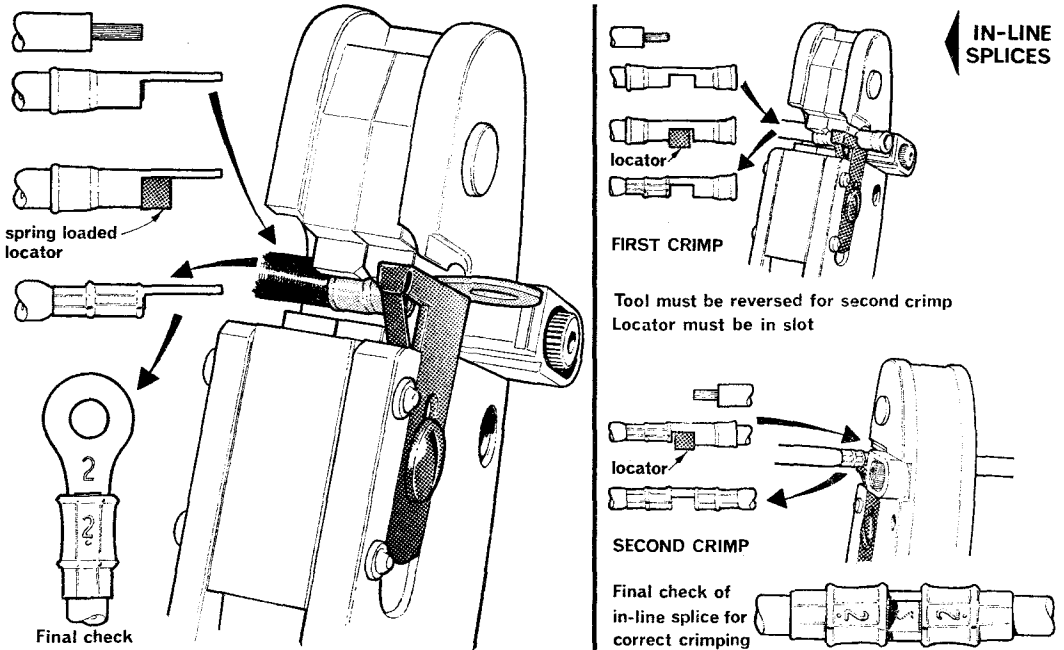

Fig. 15 Use of Hellermann crimping tool
a. *Normal.* The maximum after-crimp dimension is in the same plane as the palm of the terminal. This method is illustrated in figure 15 and is the most often used.
In order to obtain the correct pressure to produce a good electrical joint the tools are fitted with a ratchet mechanism which prevents the jaws from opening before the joint is fully formed. An automatic checking system is also fitted which impresses the tool size number on the terminal barrel during crimping. This number *must* match the size reference engraved on the terminal palm by the manufacturer. A check must be carried out to ensure that the number is correct and that it is the right way up (*see* Fig. 15) before a completed termination is accepted as serviceable.
- e. Ensure that the SBAC locator on the tool is retracted. Insert the terminal and cable into the tool jaws and push the end of the terminal barrel up against the spring-loaded locator (*see* Fig. 15).
Note: In-line connectors are held by the free barrel and inserted in the tool in the same manner, with the slot underneath engaging on the spring loaded locator to ensure that the crimping barrel is held centrally between the tool dies. After crimping the numbers impressed on the connector *must be checked* for correct orientation as shown in figure 15.